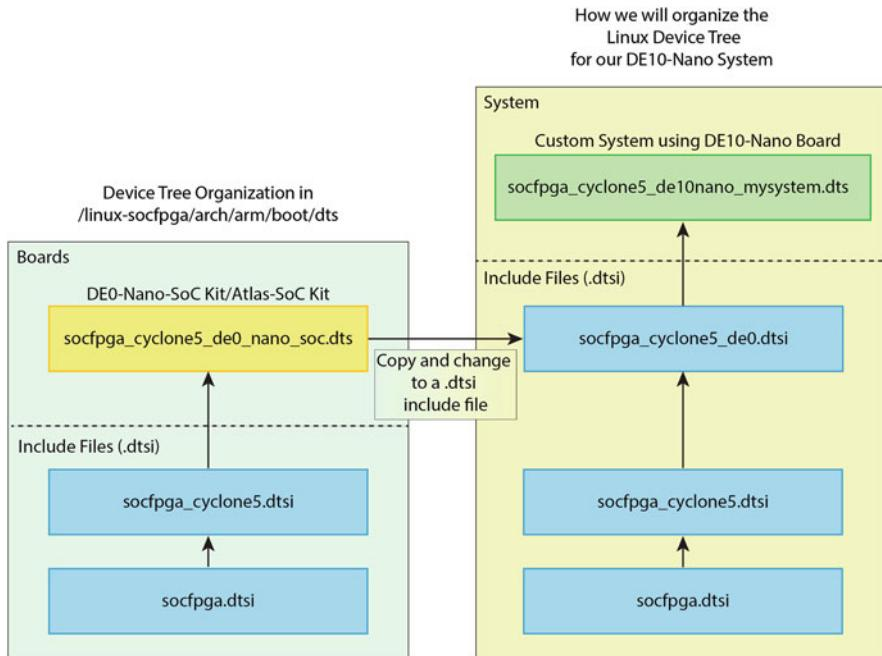

Fig. 9.10: Device tree source file hierarchy
These files are organized in a hierarchy as shown in Fig. 9.10 (left side). The Intel SoC FPGA devices have a base include file `socfpga.dtsi` that describes the hard processor system (HPS) that is common across these SoC FPGA devices. The Cyclone V SoC FPGA devices use the base `socfpga.dtsi` device tree hardware description by including this file (which is why it is called an include file and why it has the `.dtsi` extension). The information specific to the Cyclone V SoC FPGA is placed in the `socfpga_cyclone5.dtsi` file, which is also an include file. Thus include files can include other include files. When include files are organized this way, device tree information can be overlaid (added or overwritten) over the information that was pulled in earlier. Then there is specific board information, which in the case of Fig. 9.10 (left side) is the `socfpga_cyclone5_de0_nano_soc.dts` file that is the device tree file for the DE0-Nano-SoC or Atlas-SoC board.
- Step 1: Turn the de0_nano_soc board .dts file into a .dtsi file that we will include in our device tree source file (as illustrated in Fig. 9.10).